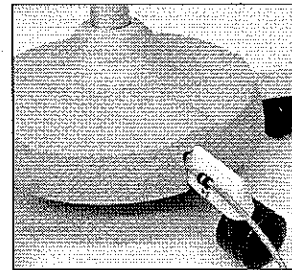

Figure 5-24d: Replacing Shroud
- c. Replace the shroud. Position it so that the irregular key slides over the leg with the anchored cable and press down until a snap is heard. Verify the shroud is in place and cannot be easily lifted. (see Figure 5-24d).